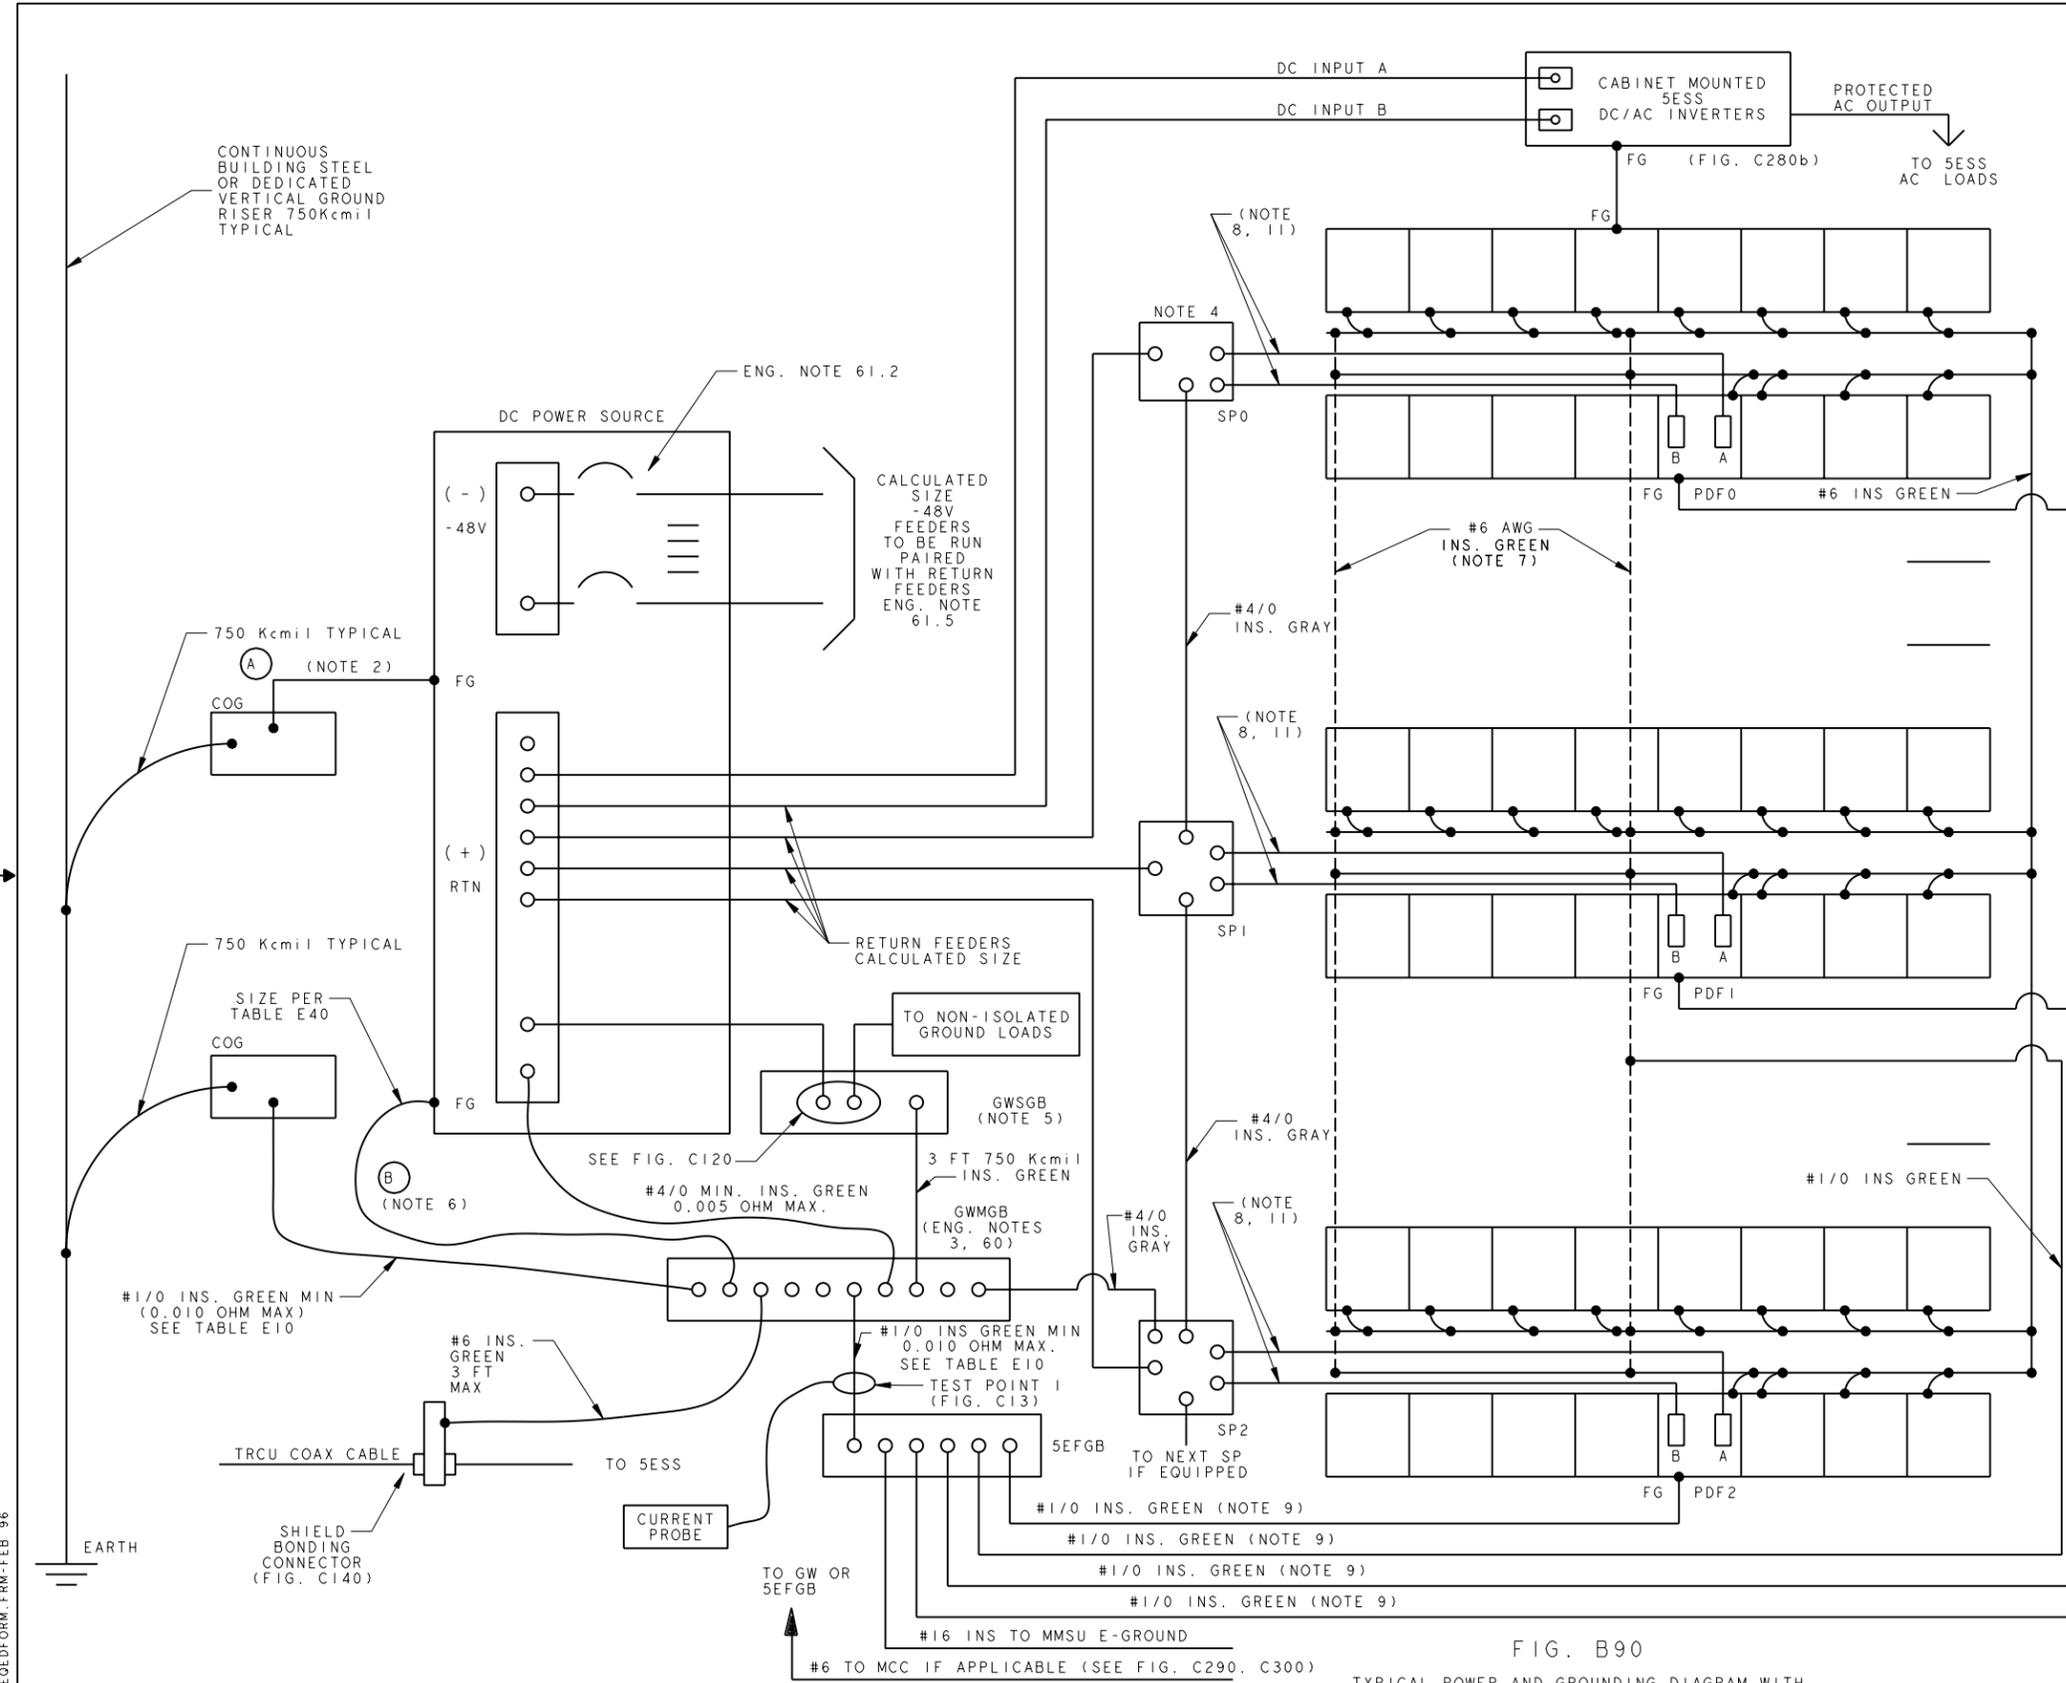

FIG. B90
5. THIS FIGURE REFLECTS INSTALLATIONS IN EXISTANCE AND MAY BE USED FOR HISTORICAL PURPOSE AND FOR ADDITIONS AND MAINTENANCE. THIS FIGURE HAS BEEN SUPERCEDED BY FIG. B90 AND B110.
TYPICAL POWER AND GROUNDING DIAGRAM WITH STAND ALONE GROUND WINDOW EITHER IN POWER ROOM OR SWITCH ROOM "DA" REPLACED BY FIG. B90, B110